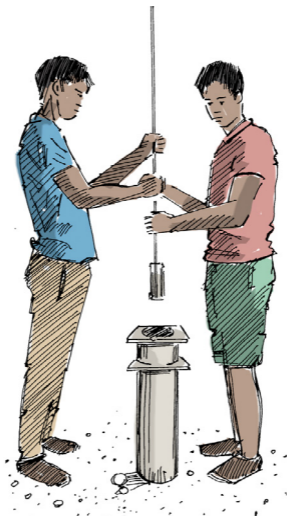

Figure 5. Removing the riser pipe
- Remove the handpump and riser pipe from the borehole (Figure 5). Check for damage or blockage with silt.